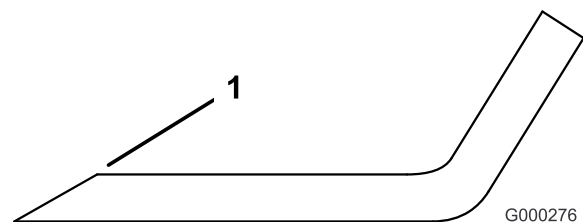

Figure 23
3. Examine the cutting edges of all blades. Sharpen the cutting edges if they are dull or nicked. Sharpen only the top side of the cutting edge and maintain the original cutting angle to ensure sharpness (Figure 23). The blade will remain balanced if the same amount of metal is removed from both cutting edges.